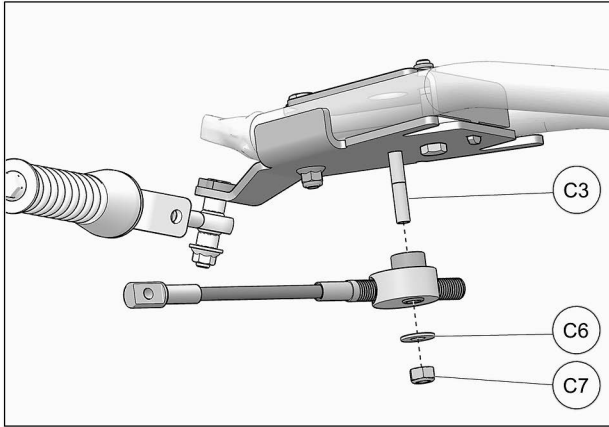

Fig. 35
18. Slip steering limiter cable assembly over bolt (C3) and use washer (C6) and nut (C7) to secure assembly to anchor bracket. Tighten nut to 50 Nm [37 lb•ft]. See Fig. 35